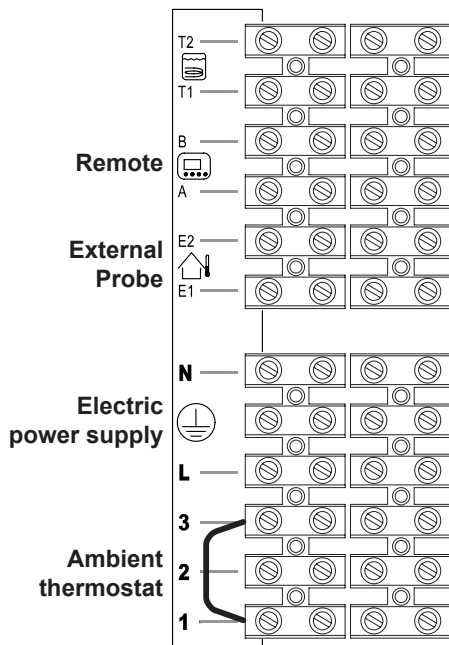
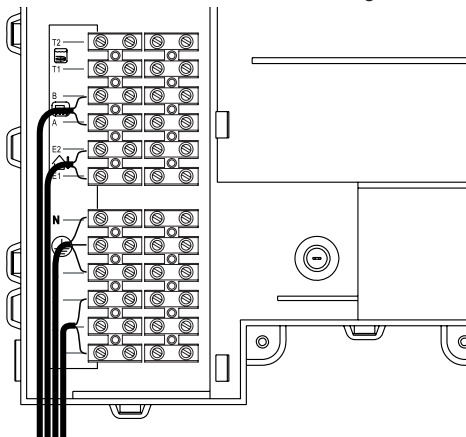
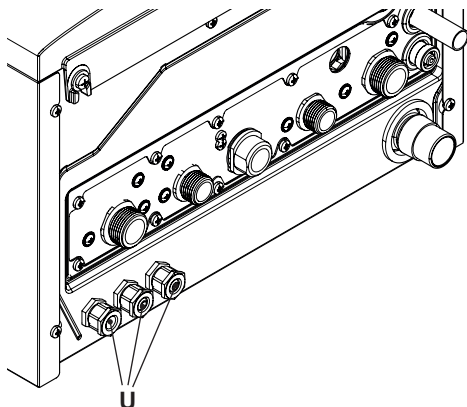

Fig. 6.17
Fig. 6.18
Fig. 6.19
- Connect the electric power supply cable coming from the fused spur isolation switch to the power supply terminal block of the boiler Fig. 6.17 keeping the same connections for the live (brown wire) and the neutral (blue wire). External 3A fuse or fused plug with same current rating is recommended.
The route of the boiler and ambient thermostat's electric power supply cable or wires must follow the route indicated in Fig. 6.18.
Allow the cables to exit the boiler by using the relevant cable clamps "U" (Fig. 6.19).
Use the clamps indicated in Fig. 6.17 to connect the ambient thermostat.
Use the ambient thermostat's clamps indicated in Fig. 6.17 and Fig. 6.18 to connect the zone valve. Insert the electric cables of the zone valve's micro switch contacts in clamps "1 and 3" of the ambient thermostat's terminal block as in Fig. 6.18.
The route of the boiler and ambient thermostat's electric power supply cable or wires must follow the route indicated in Fig. 6.18. Allow the cables to exit the boiler by using the relevant cable clamps "U" (Fig. 6.19).
The route of the external probe's connection wires must follow the route indicated in Fig. 6.18.
The route of the remote control cable must follow the route indicated in Fig. 6.18.